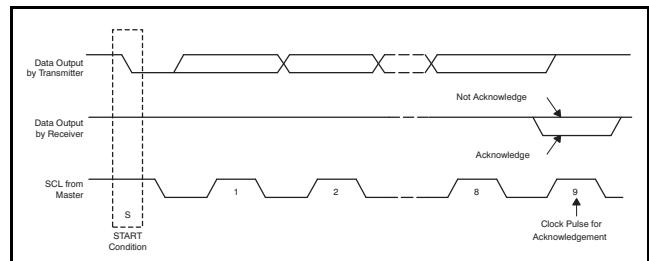
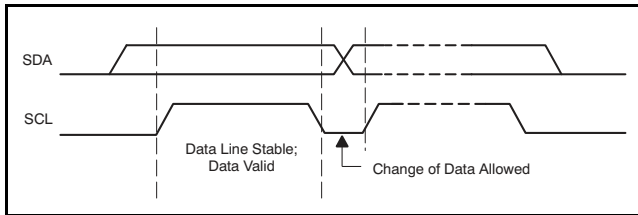

Figure 90. Acknowledge and Not Acknowledge on the I²C Bus
Figure 91. Bit Transfer on the I²C Bus
Other than specific timing signals, the I²C interface works with serial bytes. At the end of each byte, a 9th clock cycle is used to generate/detect an acknowledge signal, *Acknowledge* is when the SDA line is pulled low during the high period of the 9th clock cycle. A *not-acknowledge* is when the SDA line is left high during the high period of the 9th clock cycle as shown in Figure 90.
- The *master* initiates data transfer by generating a *start condition*. The *start condition* is when a high-to-low transition occurs on the SDA line while SCL is high, as shown in Figure 90. All I²C-compatible devices recognize a start condition.
- The master then generates the SCL pulses, and transmits the 7-bit address and the *read/write direction bit* (R/W) on the SDA line. During all transmissions, the master ensures that data is *valid*. A *valid* data condition requires the SDA line to be stable during the entire high period of the clock pulse, as shown in Figure 91. All devices recognize the address sent by the master and compare it to their internal fixed addresses. Only the slave device with a matching address generates an *acknowledge* by pulling the SDA line low during the entire high period of the ninth SCL cycle, as shown in Figure 90 by pulling the SDA line low during the entire high period of the 9th SCL cycle. Upon detecting this acknowledge, the master knows the communication link with a slave has been established.